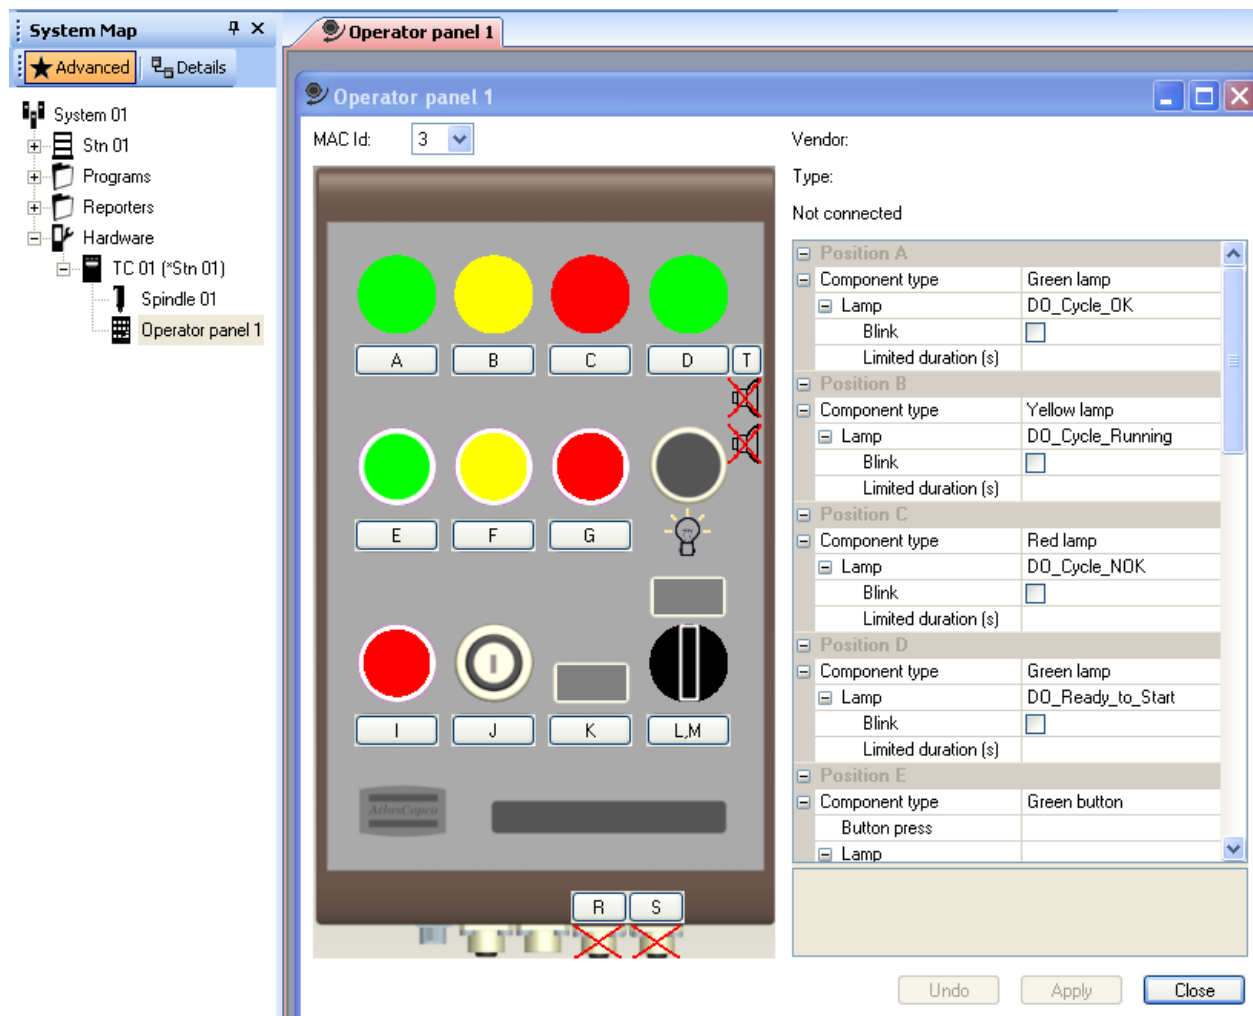

Figure 21 System map and operator panel dialog
2. In the **System Map** window; right click the Tightening Controller (TC) icon to access the **Add Unit** dialog box and select **Operator panel** from its item list. See Figure 21.
4. See Figure 21. Ensure that **MAC id** is set to the same setting as the address switch. See section 3.2.2 *Address switch* for details.